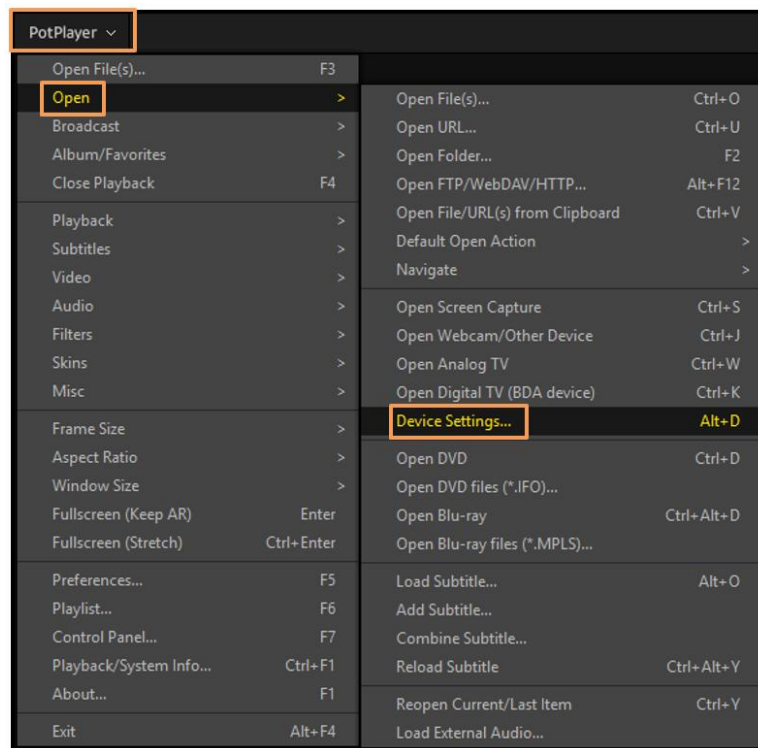

Figure 7.1. Device Settings in PotPlayer
2. To configure output resolution, either hit the shortcut Alt+D or Click **PotPlayer > Open > Device Settings...**, as shown in Figure 7.1.